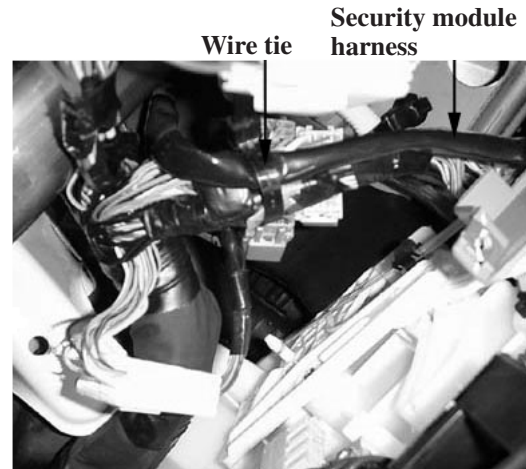

Figure 10
12. As shown in Figure 10, insert the female connector of the extension harness into the security module 18-pin (white housing) connector. Push the extension harness into under the center console. Take care not to damage the extension harness.